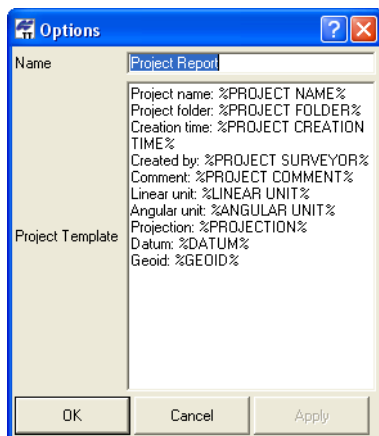

Figure 7-31. Item Options – Project Report
- Project Report – edit the name, type template items in the same manner as displayed on screen or delete template items, then click **OK** (Figure 7-31).